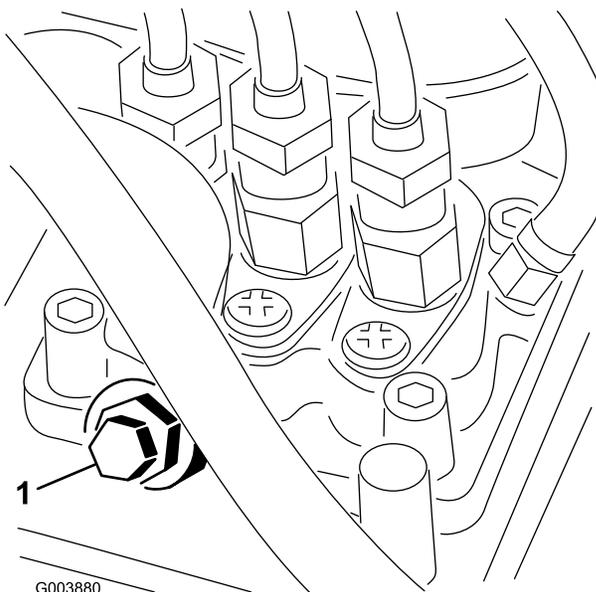

Figure 16
3. Open the air bleed screw on the fuel injection pump (Figure 16).